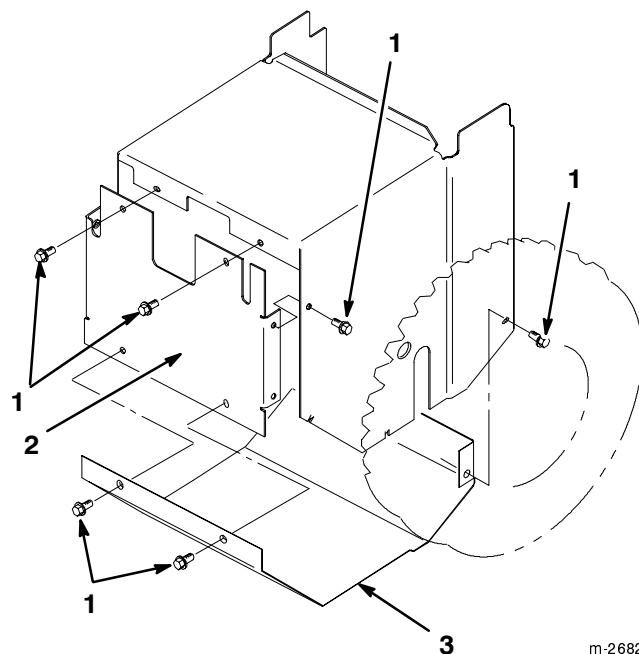

Figure 33
4. Remove the eight screws that hold the back and the bottom covers in place and remove the covers (Fig. 33).